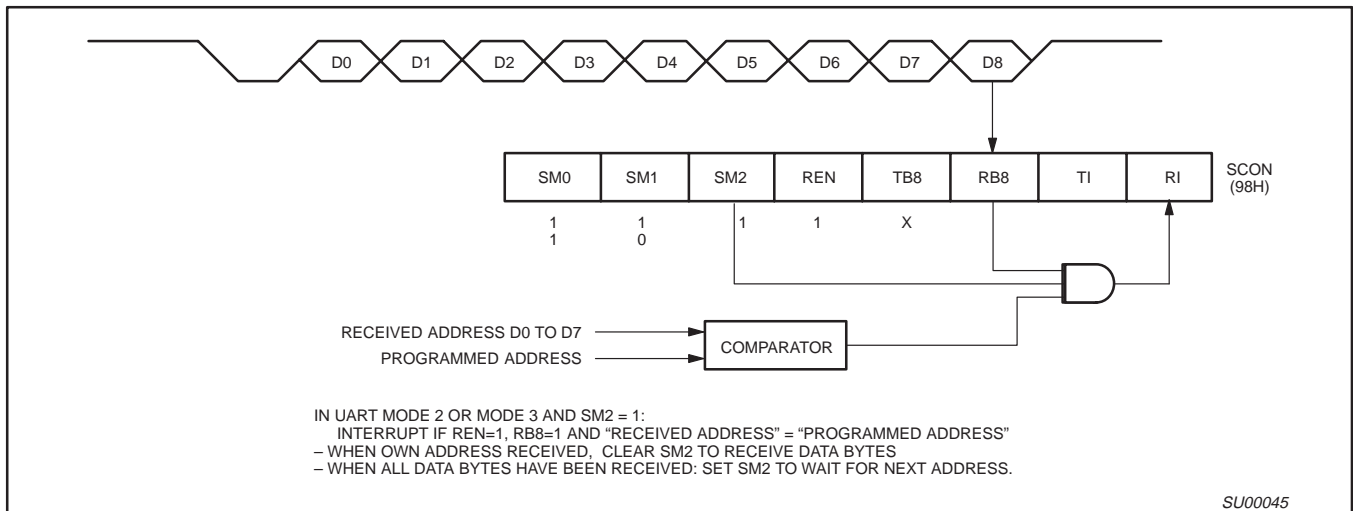

Figure 10. UART Multiprocessor Communication, Automatic Address Recognition
hardware to make the comparisons. This feature saves a great deal of software overhead by eliminating the need for the software to examine every serial address which passes by the serial port. This feature is enabled by setting the SM2 bit in S0CON. In the 9 bit UART modes, mode 2 and mode 3, the Receive Interrupt flag (RI) will be automatically set when the received byte contains either the “Given” address or the “Broadcast” address. The 9 bit mode requires that the 9th information bit is a 1 to indicate that the received information is an address and not data. Automatic address recognition is shown in Figure 10.